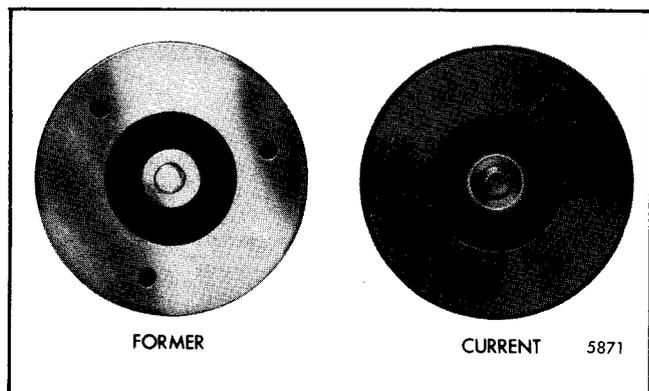

Fig. 34 - Spray Tip Sealing Surface Identification
**NOTE:** The sealing surface of current spray tips is precision lapped by a new process which leaves the surface with a dull satin-like finish; the lapped surface on former spray tips was bright and shiny (Fig. 34). It is not recommended or necessary to lap the surface of a *new* current spray tip.